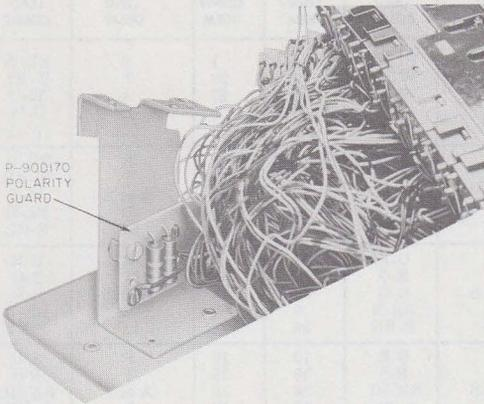

Fig. 8—2831-Type Telephone Set with P-90D170 Polarity Guard Installed
3.09 *Polarity Guard (2831-type only)* should be used only when specified by local instructions for end-to-end signaling installations where battery and ground reversals may be encountered. A P-90D170 polarity guard assembly may be installed on the right key bracket (Fig. 8) with screw provided. Connections for polarity guard assembly are shown in Table D.